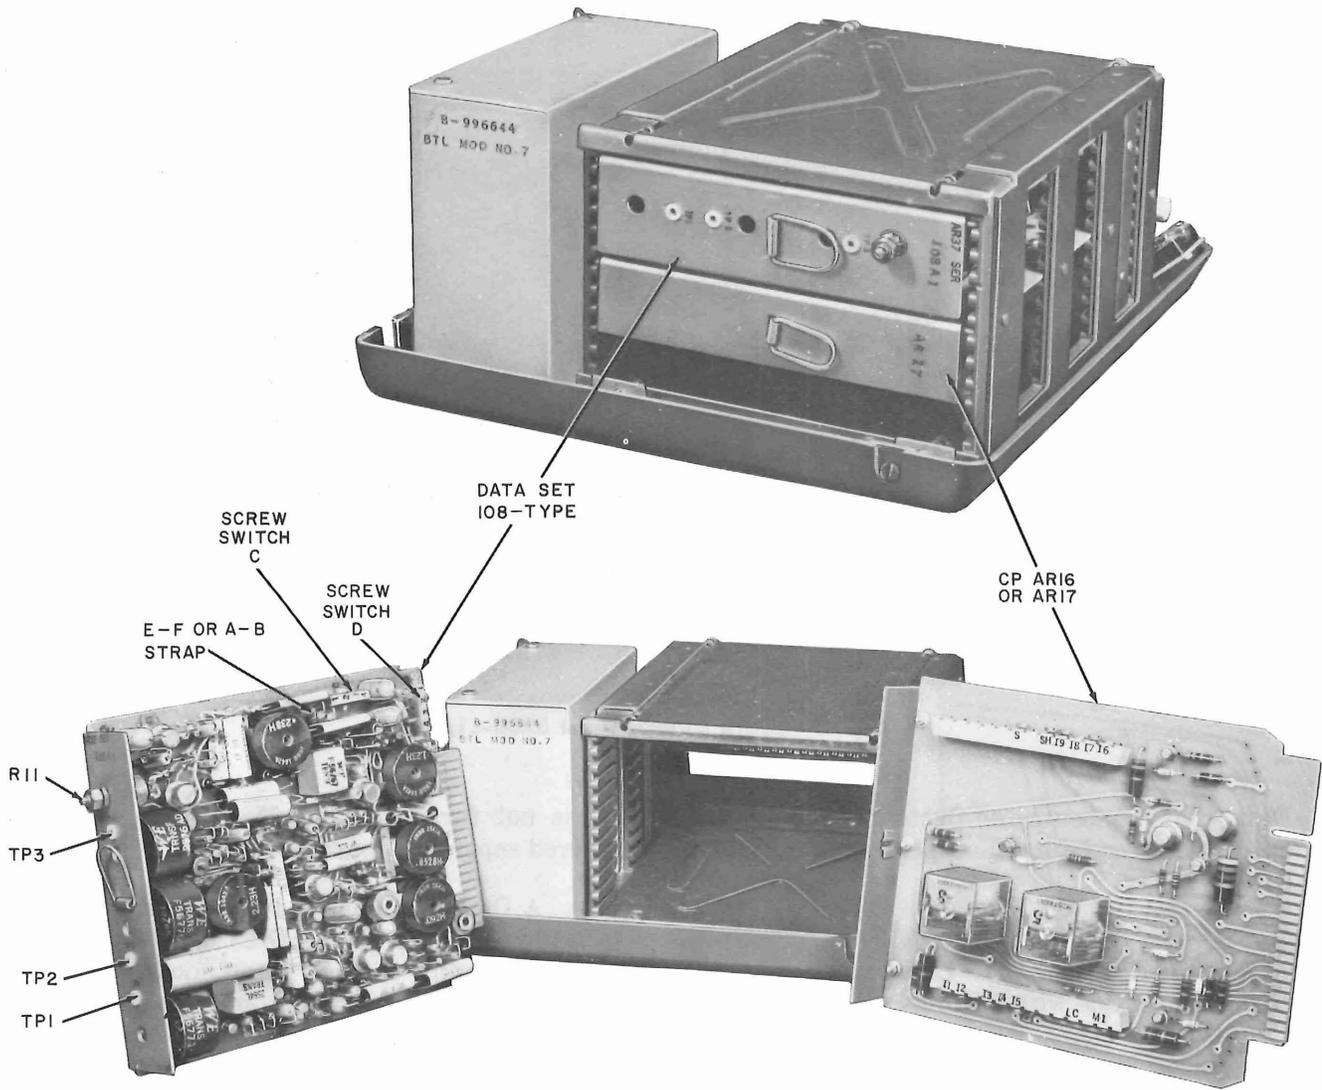

Fig. 3—Data Set 108-Type and Data Auxiliary Set 820D-Type
2.04 Data Set 108A- or 108C-type is mounted in a space provided in the 61A apparatus mounting of DAS 820D-type (Fig. 3). The data